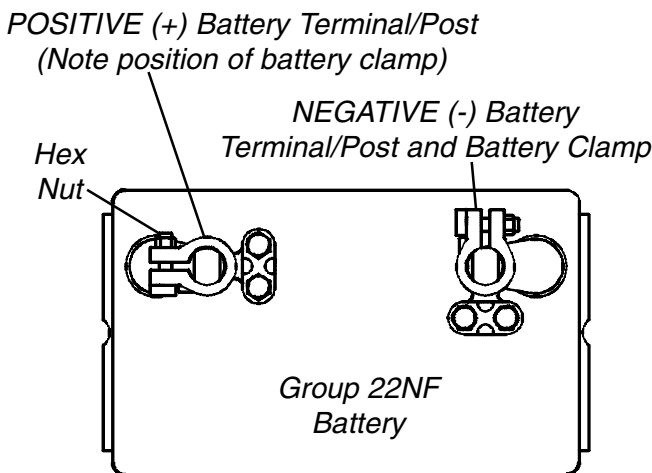

FIGURE 4 - BATTERY CLAMP METHOD
**BATTERY CLAMP METHOD (FIGURES 4, 5 AND 6).**
The battery clamp of the POSITIVE (+) battery terminal/post MUST be mounted in the position shown in FIGURE 4, otherwise the battery box top cannot be installed properly.
1. Perform one (1) of the following:
- A. If the battery clamp of the POSITIVE (+) battery terminal/post is **NOT** mounted in the orientation shown in FIGURE 4, perform the following:
- B. If the battery clamp on the POSITIVE (+) battery terminal/post is positioned as shown in FIGURE 4, proceed to STEP 2.
- Reposition the battery clamp on the POSITIVE (+) battery terminal/post as shown in FIGURE 4.